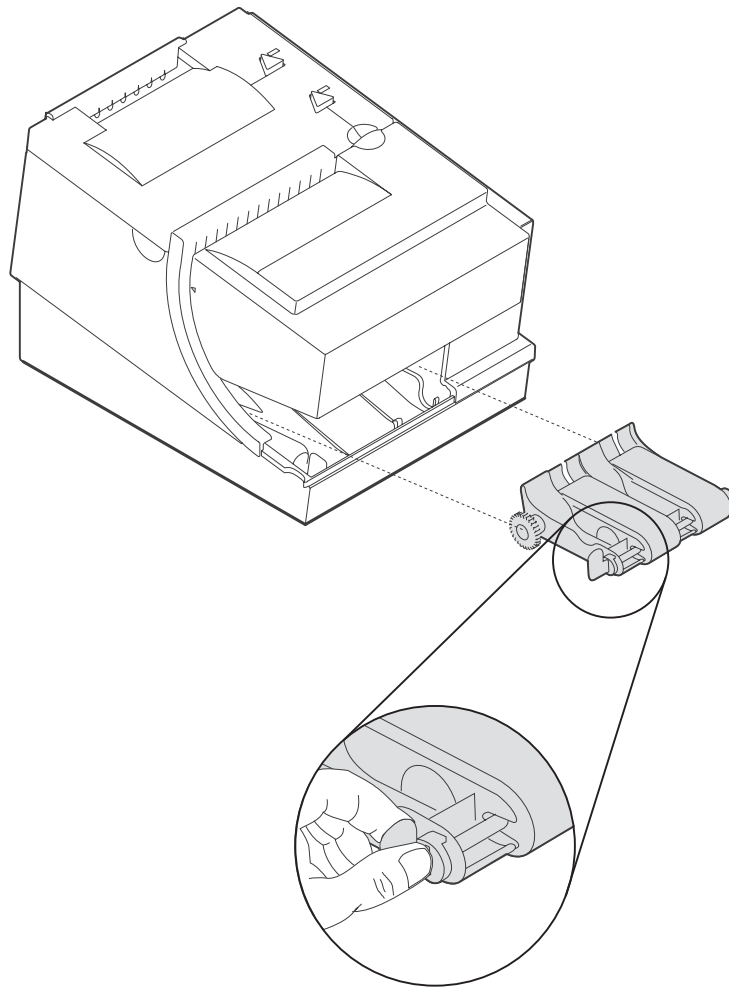

Figure 31. Removing the check flipper cartridge (except Models T18, T19)
3. Lift up the tab on the left side of the check flipper cartridge and remove the assembly from the printer. (See Figure 31 on page 56.)